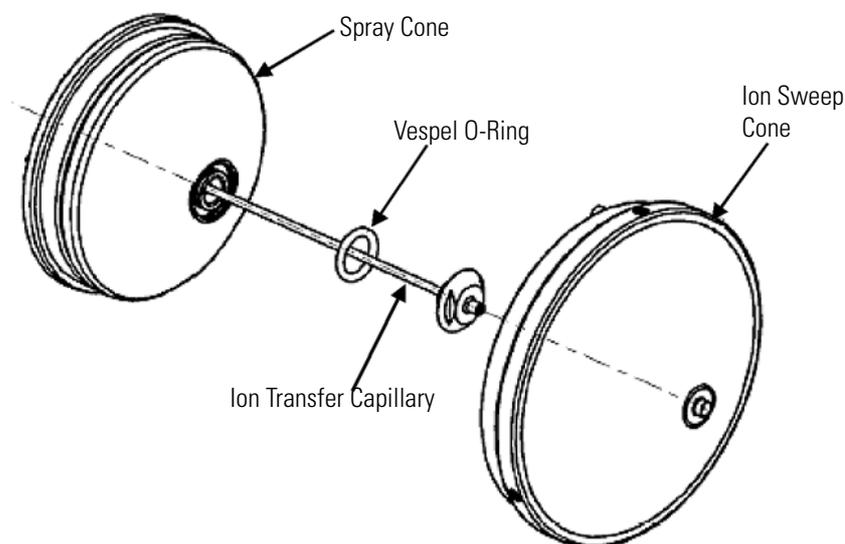

Figure 3-10. Spray cone, O-ring, ion transfer capillary, and ion sweep cone of the ion source interface
5. Remove the ion transfer capillary by turning it counterclockwise with the custom removal tool (P/N 70111-20258, in the Exactive Installation Kit) until you can pull it free from the ion source interface. See Figure 3-10.